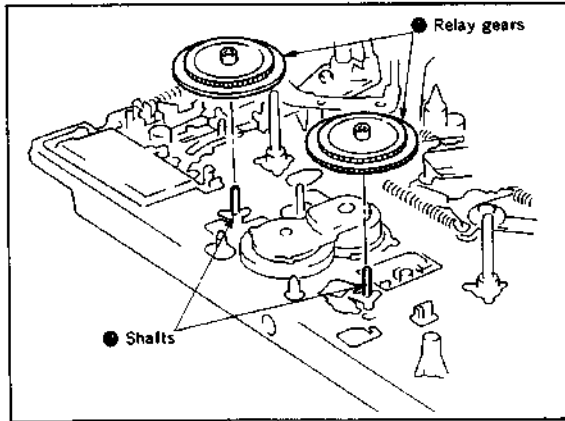

Fig. 3-26.
### 3-20. RELAY GEAR (Fig. 3-26)
- 2) Remove the sub-chassis. (Refer to Fig. 3-26.)
- 3) Disengage the claw ①, then pull out the limiter arm ②.
- 4) Disengage the two claws ③, then pull out the limiter slide plate ④.